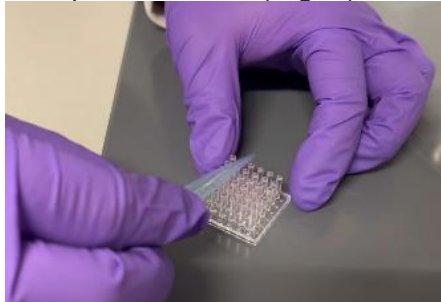

Figure 3. Scraping excess cell-Matrigel mixture from the pillars using a 1 mL pipette tip.
12. After loading the cell-Matrigel mixture on all pillars, remove excess cell-Matrigel by horizontally sliding a 1 mL pipette tip across the pillar surfaces (**Fig. 3**).